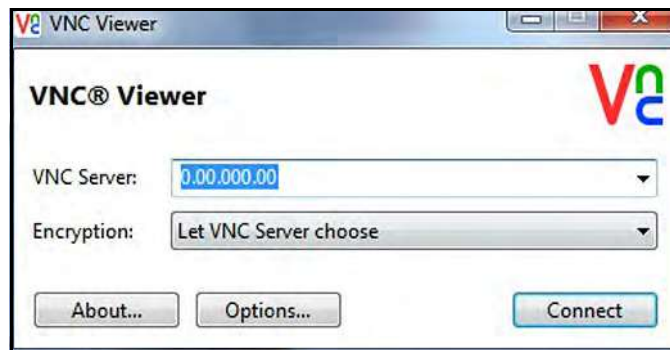

Figure 66: VNC Viewer Screen
5. From the PC, go to the RealVNC web site and download the VNC Viewer. Then, launch the VNC Viewer and enter the recorded moisture.IQ IP Address when prompted (see Figure 66 below). Click the **Connect** button.